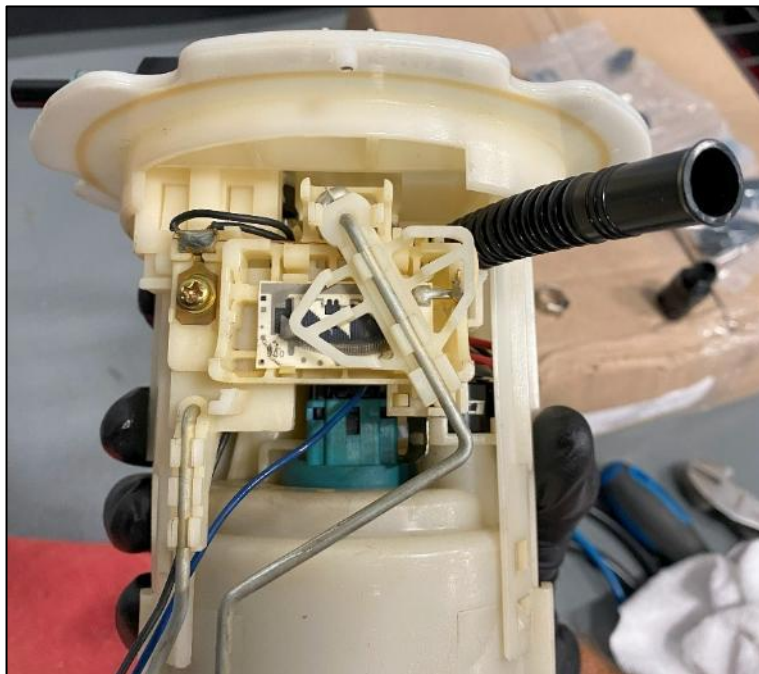

Figure 30
23. Join the Upper and Lower Half of the Fuel Basket Assembly back together. Route the Fuel Tube as shown when reassembling. *Figure 30.*